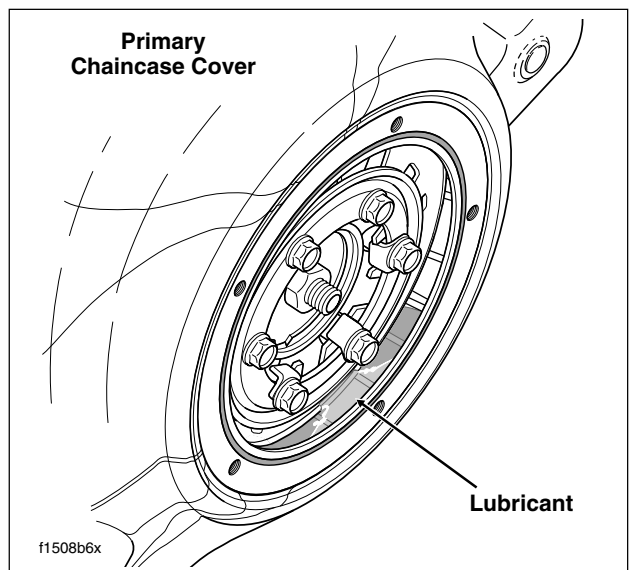

Figure 1-5. Fill Primary Chaincase With Lubricant
6. Pour 32 ounces (946 ml) of Harley-Davidson PRIMARY CHAINCASE LUBRICANT through the clutch inspection cover opening, Part No. 99887-84 (quart) or Part No. 99886-84 (gallon). See Figure 1-5.